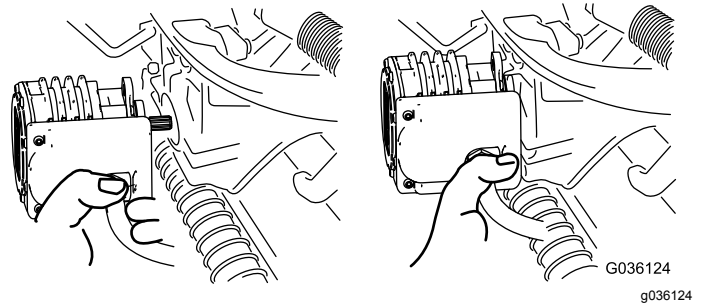

Figure 57
4. Move the motor to the storage location on the front of the suspension arm (Figure 57).